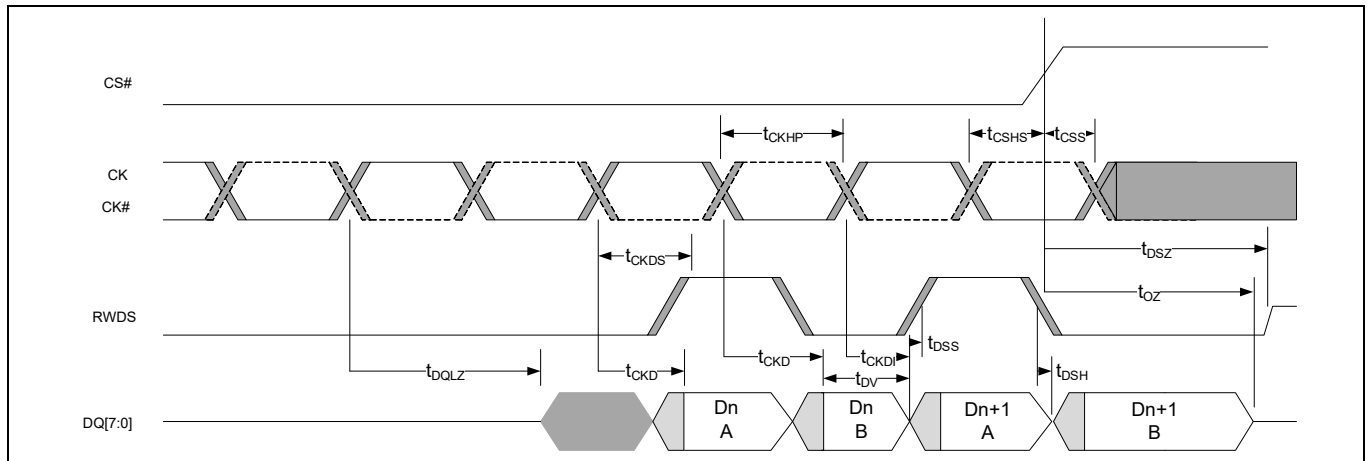

Figure 38 Data valid timing [58, 59, 60]
56. Refer to **Figure 38** for data valid timing.